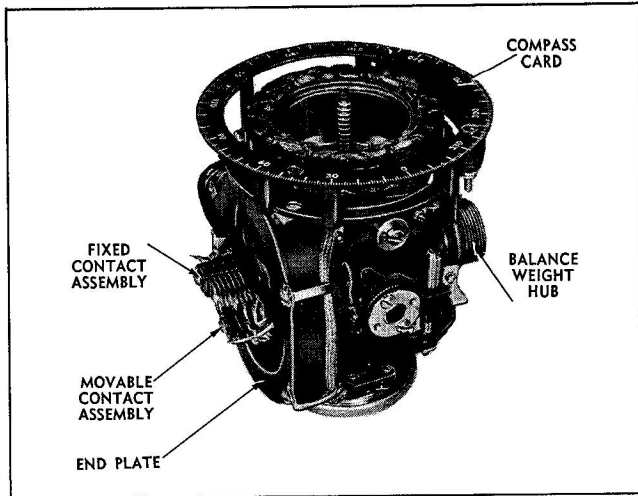

Figure 1-5 Vertical Ring and Gyro Assembly
(3) Vertical Ring And Gyro Assembly. (See figure 1-5.) The vertical ring serves as the